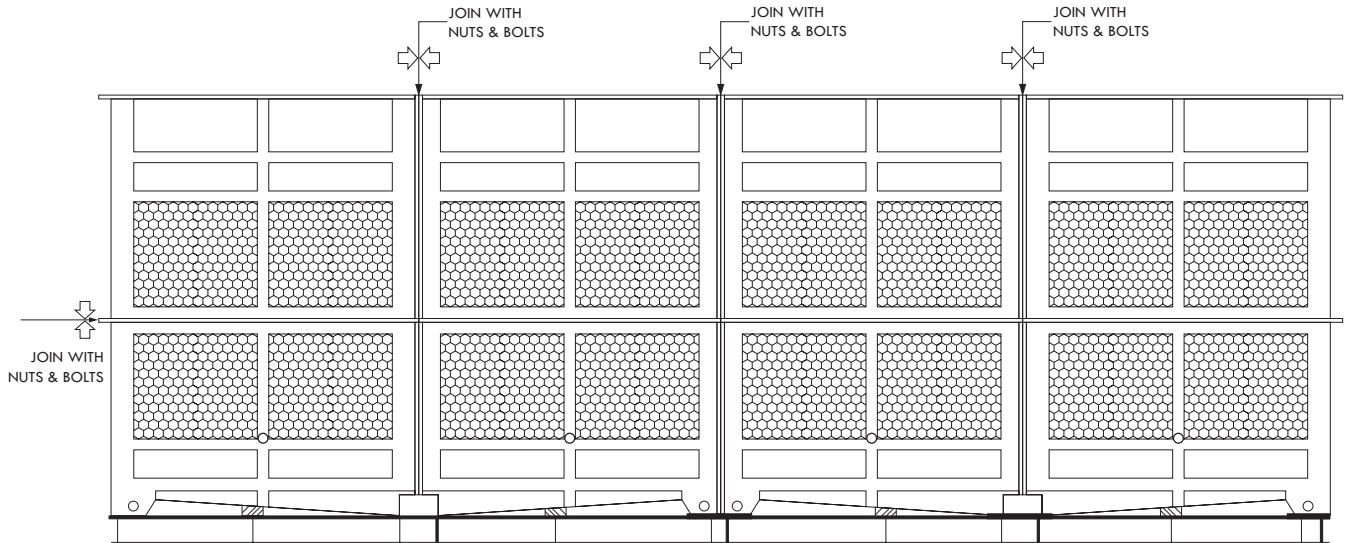

Figure A-27: Upper air inlet sections installation
- I. Proceed to place upper air inlet section 2 on top of basin section 2; make sure that the bolt holes are aligned. Bolt the vertical flanges between upper air inlet sections 1 & 2 together using first the galvanized steel bolts and nuts (supplied by REYMSA) to join sections. Then replace the galvanized steel bolts with the stainless steel nut and bolt sets supplied by REYMSA. Then proceed to bolt down and secure the horizontal flanges between upper air inlet section 2 and basin section 2, with the stainless steel nut and bolt sets supplied by REYMSA. Repeat until all upper air inlet sections have been installed (see Figure A-27).